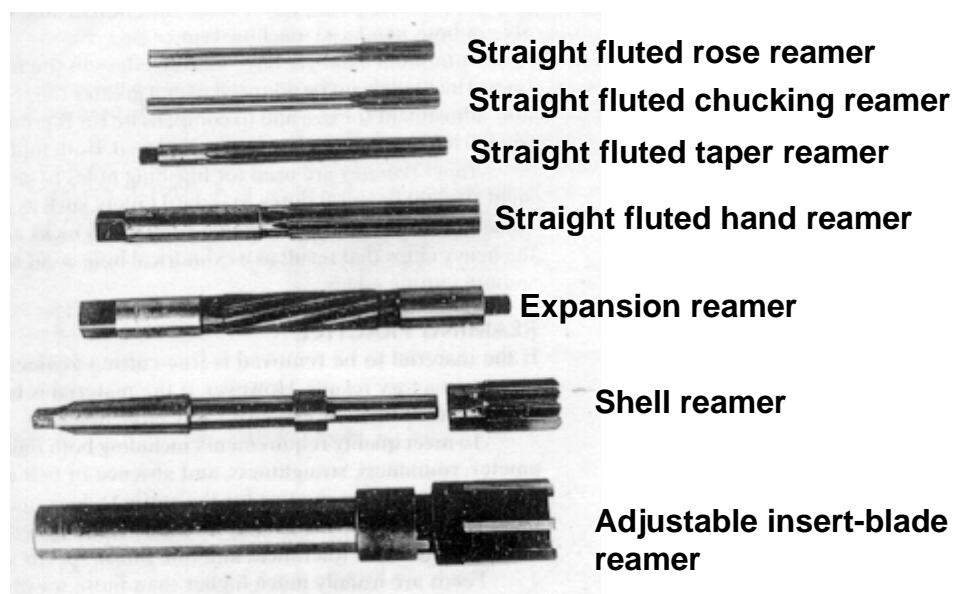

Fig. 4.2.17 Different types of reamers.
- Reaming is done, if necessary, after drilling or drilling and boring holes for accuracy and good surface finish. Different types of reamers of standard sizes are available as shown in Fig. 4.2.17 for different applications.